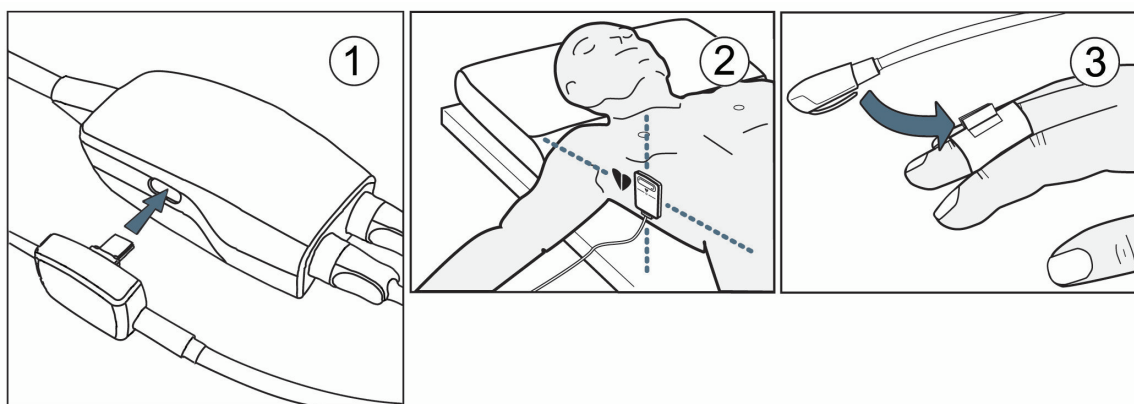

Figure 11-4: Heart reference sensor application
1. Connect the HRS to the pressure controller. See (1) in Figure 11-4 on page 208.
3. Apply the heart end of the HRS to the patient at phlebostatic axis level by using an HRS clip. See (2) in Figure 11-4 on page 208.
4. Attach the other end of the HRS to the finger cuff. See (3) in Figure 11-4 on page 208.